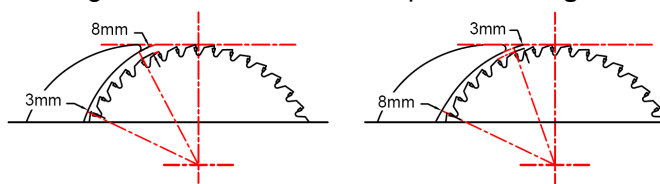

Fig.19
2. The distance of the riving knife from the gear rim must be between 3mm and 8mm. measured radially through the centre of the saw spindle. As **Fig.19**